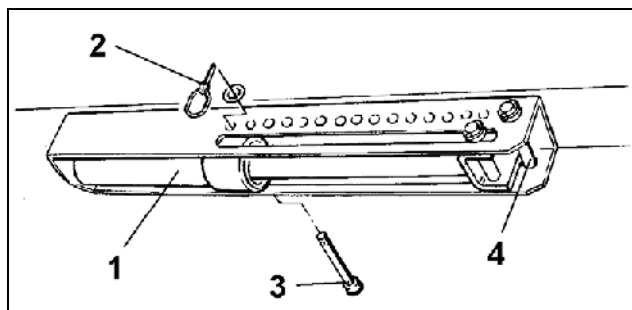

Fig. 87
Connect the hydraulic ram (Fig. 87/1) to a single acting tractor Control valve and actuate the Control valve only from the tractor cab.
Two pins (Fig. 87/3 und Fig. 87/4) function as stroke limiters for the stroke of the hydraulic ram (Fig. 87/1) placed within the setting segment. When the hydraulic ram is without pressure the top of it rests on the pin (Fig. 87/3) and when the hydraulic ram is pressurised it rests on the pin (Fig. 87/4).
- Pressurise hydraulic ram (Fig. 87/1).
- Insert the pin (Fig. 87/3) into one of the holes of the quadrant plate and secure by using a clip pin (Fig. 87/2).